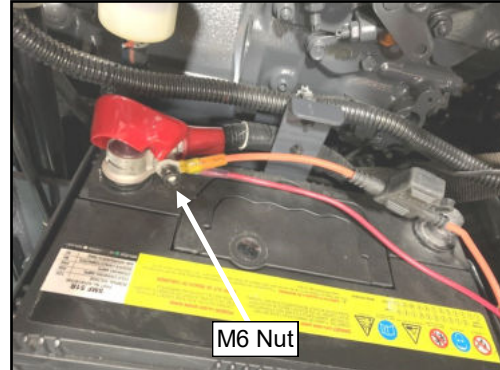

Fig. 7.7 (Attach Red Wires to Battery)
- 7.7 See fig. 7.7. Install the ring terminals on the red wires from both the main harness and from the regulator power harness onto the stud on the positive battery clamp (outboard of the existing battery clamp nut) and secure with the following hardware.